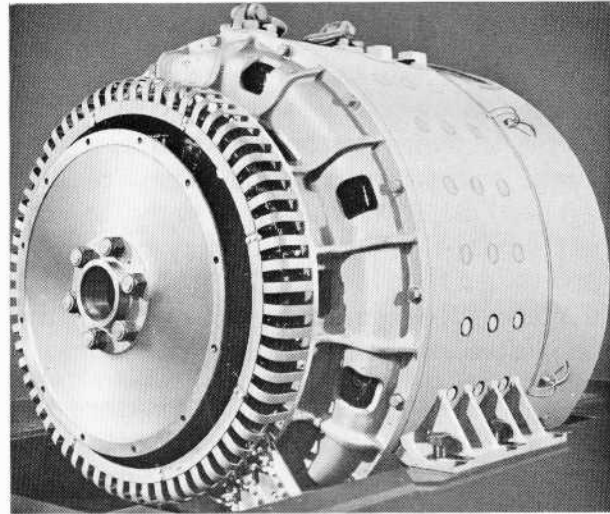

Fig. 1 - D14 Alternator With D12 Main Generator
Alternator types D14 and D14A are rated at 100 KVA at 0.8 power factor. They are 3-phase machines, Wye (Y) connected and have 16 poles. The D14 alternator is built integral with the D12 main generator as shown in Fig. 1. The D14A alternator is built integral with the D8B main generator.